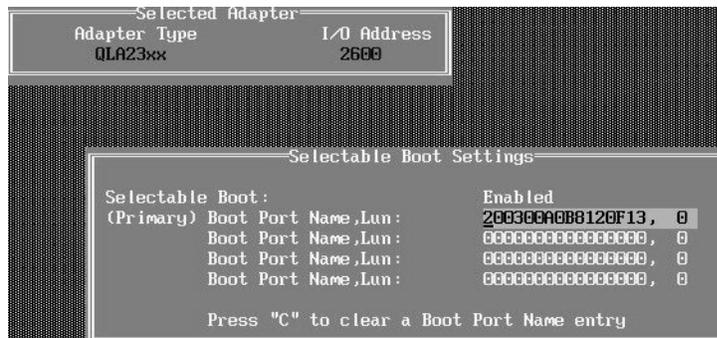

Figure 10-40 Set boot device
- From the Configurable Boot Settings panel, set the boot device to the controller's worldwide port name, as shown in Figure 10-40.